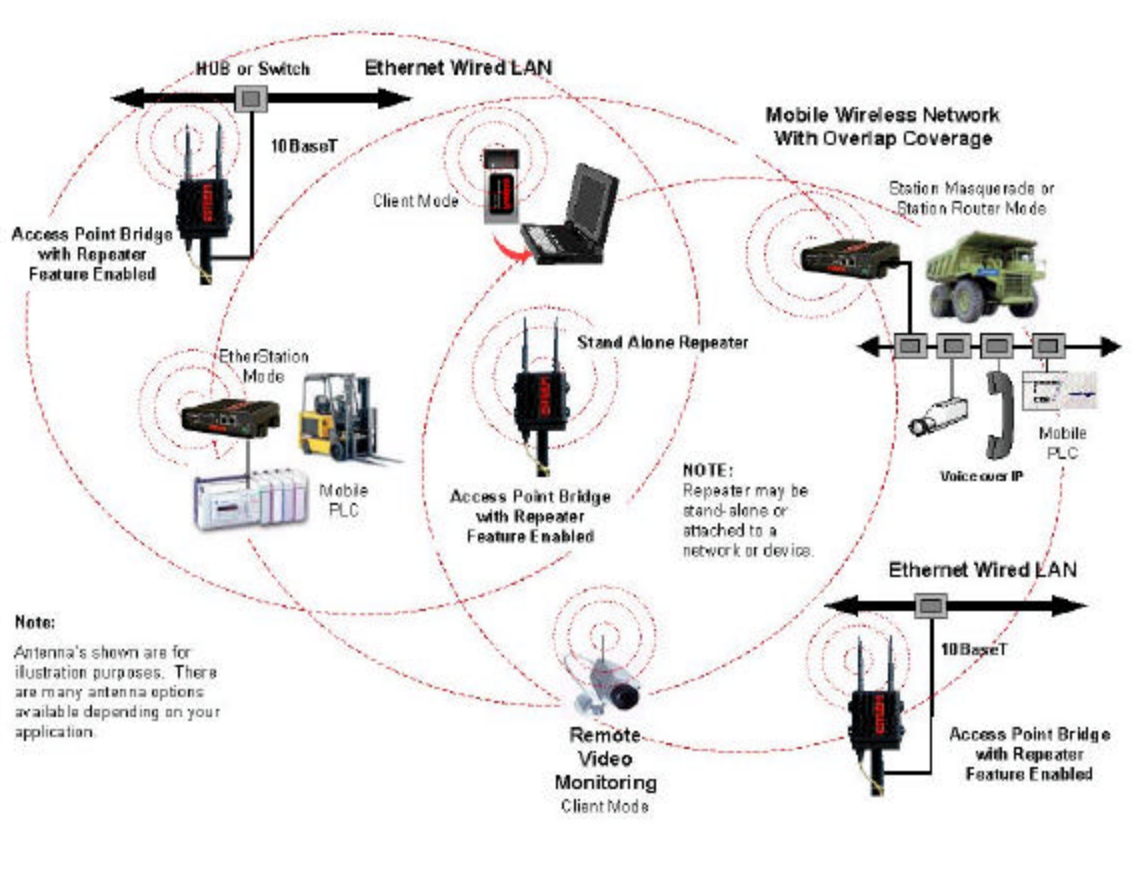

Figure 1: Access Point Bridge Diagram
1. Review the Access Point Bridge diagram. See Figure 1.
2. Refer to the top left corner of Figure 1 to the Model 195Eg that is interfaced to the Hub or Switch. This unit is configured as a wireless Access Point Bridge to the hardwired LAN. In this example the Model 195Eg will have to be programmed in the Access Point Bridge Mode described in Chapter 1. This Model 195Eg will serve as the base node for 802.11g clients.